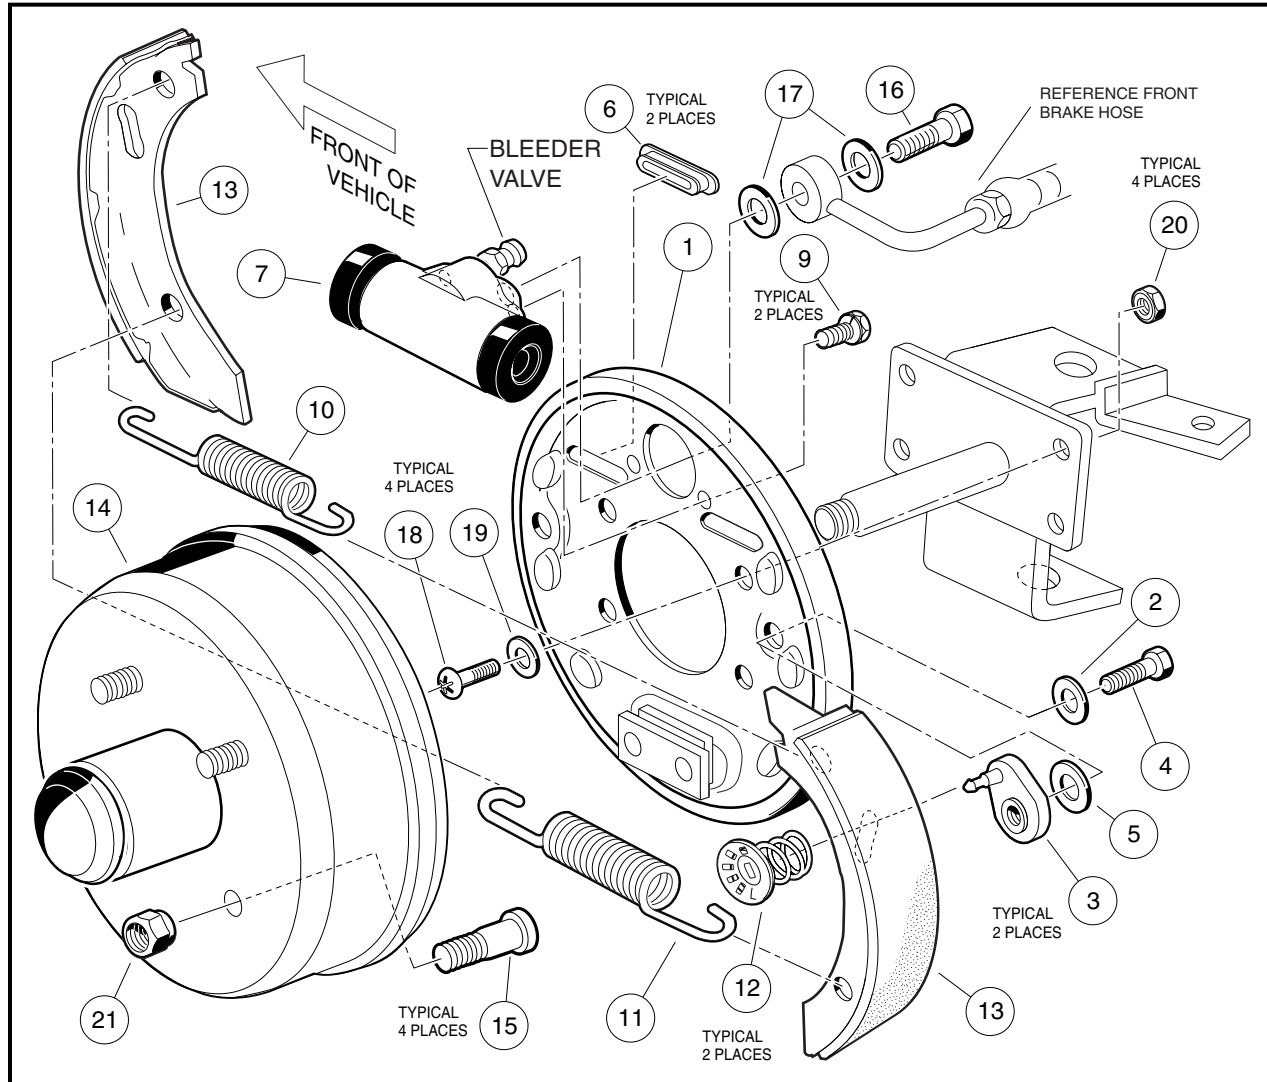

Figure 6-1 Front Hydraulic Brake Cluster Assembly
- Check each wheel cylinder (7) by pulling back the edge of each dust boot (**Figure 6-1, Page 6-2 or Figure 6-19, Page 6-21**). Brake fluid in the boot indicates a leaking wheel cylinder and should be replaced. **See Wheel Cylinder Replacement on page 6-19.**
- If the brake adjusters (3) are frozen (requiring more than 65 in-lb (7.4 N-m) to turn freely), worn or loose, replace the adjuster assemblies in pairs (**Figure 6-1, Page 6-2**). **See Brake Shoe Adjuster Replacement on page 6-21.**